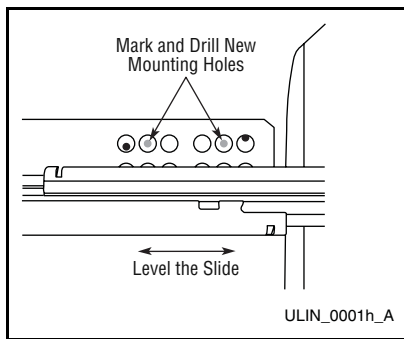

Figure 22
4. Mark new front drilling holes using a different set of mounting holes on the slide. See **Figure 22**.